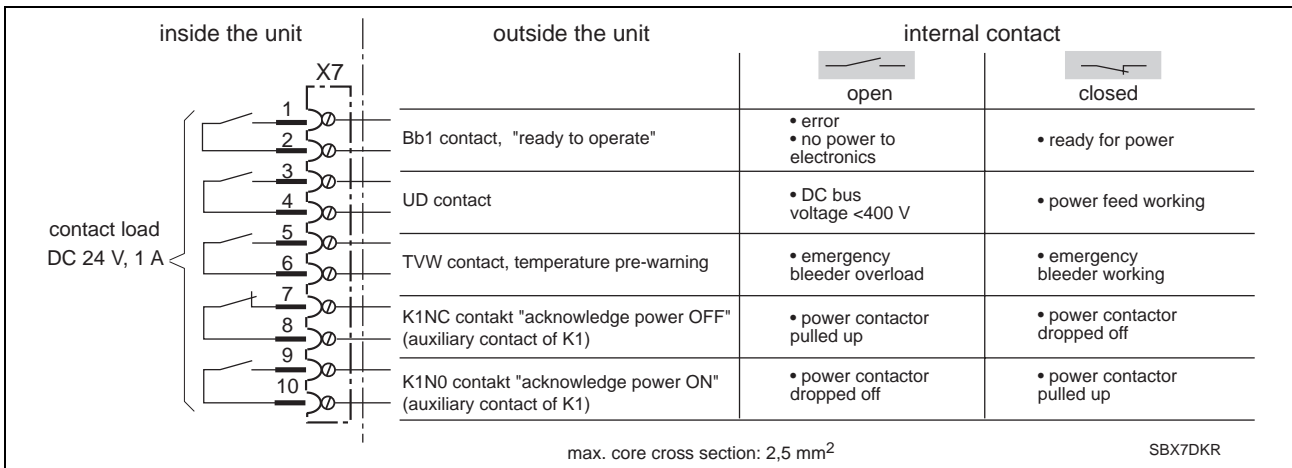

Fig. 6-19: Signal outputs at X7
- ⇒ Do not overload the contact (see Fig. 6-19).